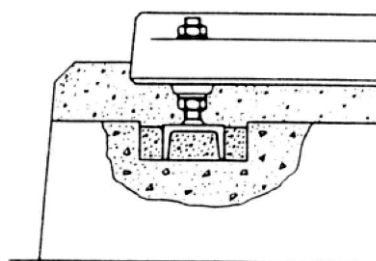

fig. 4
- bed-plate made of sectional steel fig. 4